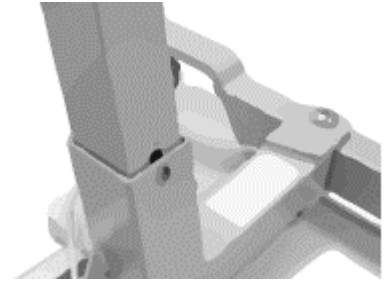

Figure 4
E. Ensure all cables are clear from entrapment while fitting the base and mast together. (As shown in Fig. 4).